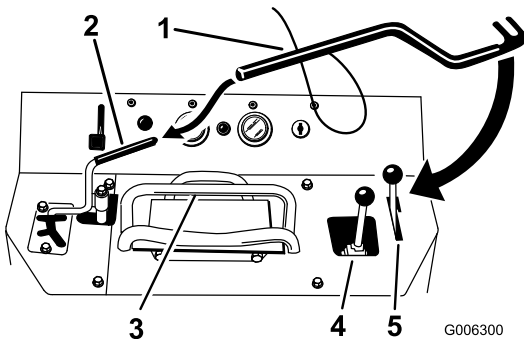
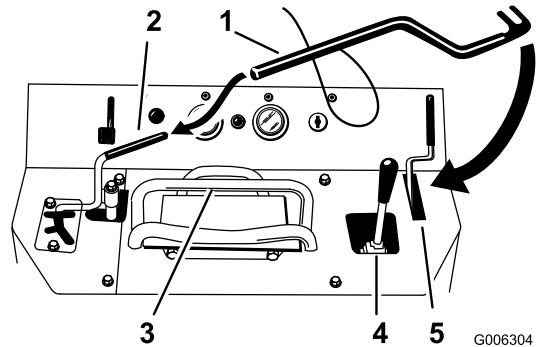

Figure 4
Figure 5
- Slide the end of the hydraulics lever clamp over the auxiliary hydraulics lever (Figure 4 or Figure 5).